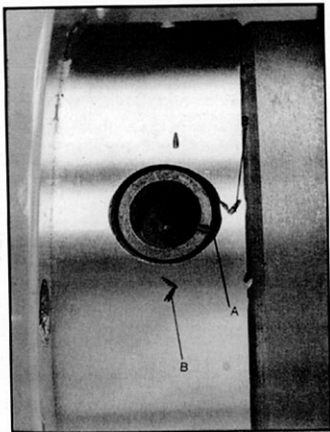

Fig.2
6. Lift the chuck up to the spindle nose and press onto the spindle. Tighten in place by turning the cam locks 1/4 turn clockwise. The index mark (A, Fig.2) on the camlock should be between the two indicator arrows (B, Fig.2). If the index mark is not between the two arrows, remove the chuck and adjust the camlock studs by either turning out one full turn (if cams will not engage) or turning in one full turn (if cams turn beyond indicator marks).